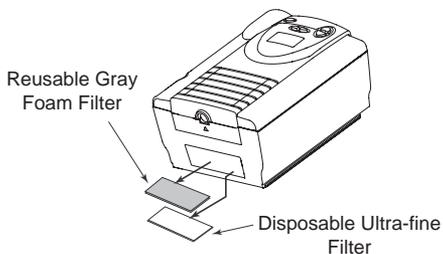

Figure 9-2 Removing the Air Filters
3. Remove the filters from the enclosure as shown in Figure 9-2. The top filter is the reusable gray foam filter. The bottom filter is the optional disposable, white, ultra-fine filter.